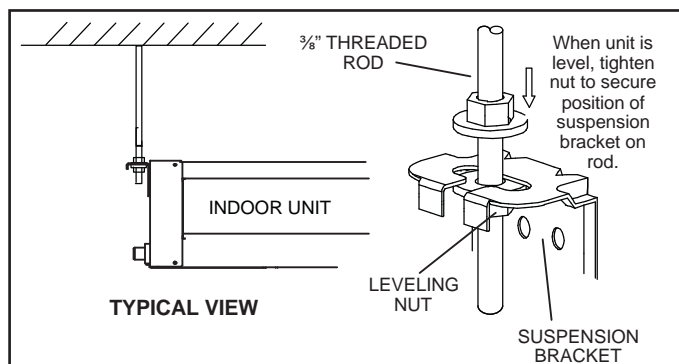

Figure 3. Suspension Hardware
3. Slide one nut and one washer onto each threaded rod. Use electrical tape to keep the washer from falling off. Position the nuts slightly above the final resting place of the four suspension brackets. See Figure 3.